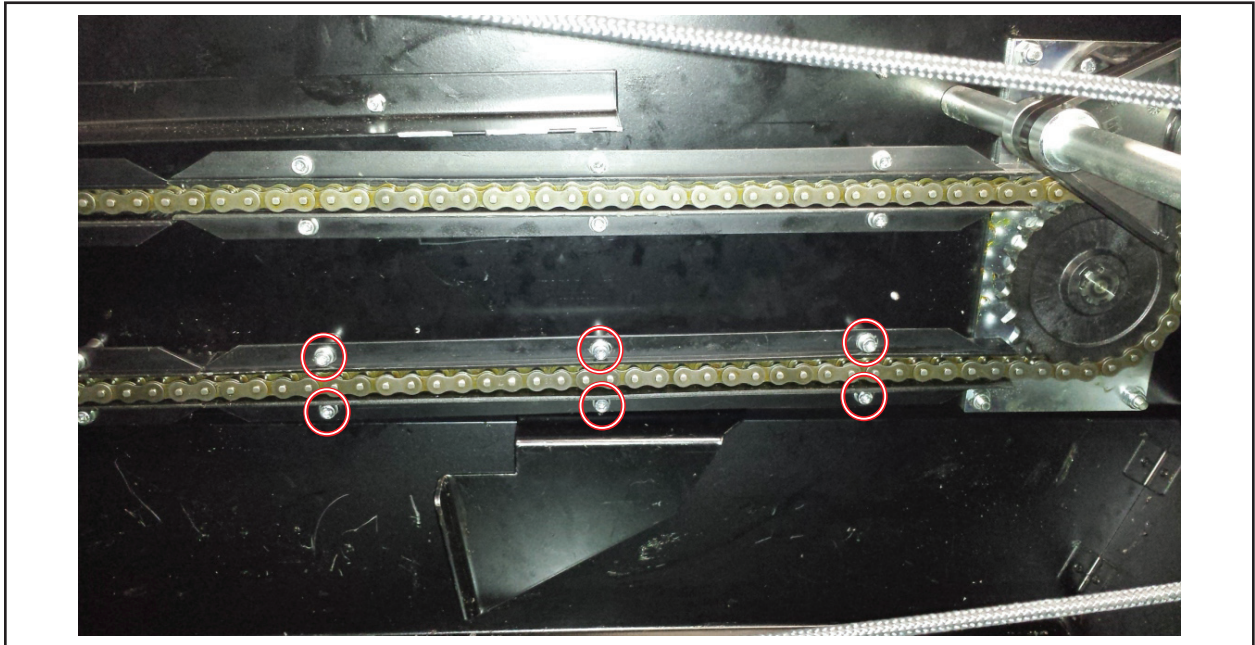

Figure 6
29. Reposition the lower rear chain guide so it is level and touching the front lower guide. Tighten the 6 mounting bolts. Refer to *Figure 6*.